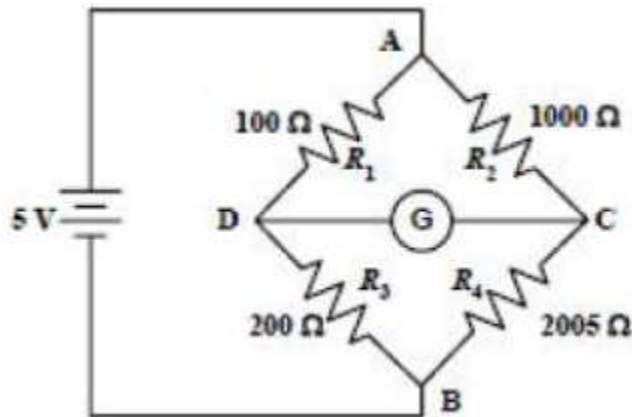

Fig. Q 4 (a)
- a) Fig. Q 4 (a) shows a bridge circuit with values of the circuit elements. The battery voltage is 5 V and the internal resistance is negligible. The galvanometer has a current sensitivity of 10 mm/ μ A and an internal resistance of 100 Ω . Calculate the deflection of the galvanometer caused by the 5 Ω unbalance in arm BC. (4 marks)